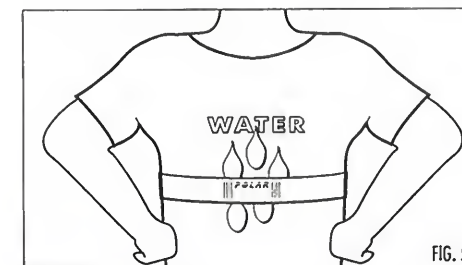

FIG. 5
- 4 Under extreme sweat conditions, it may be necessary to wear the belt and transmitter over a light shirt to prevent irregular readings. (fig. 5)